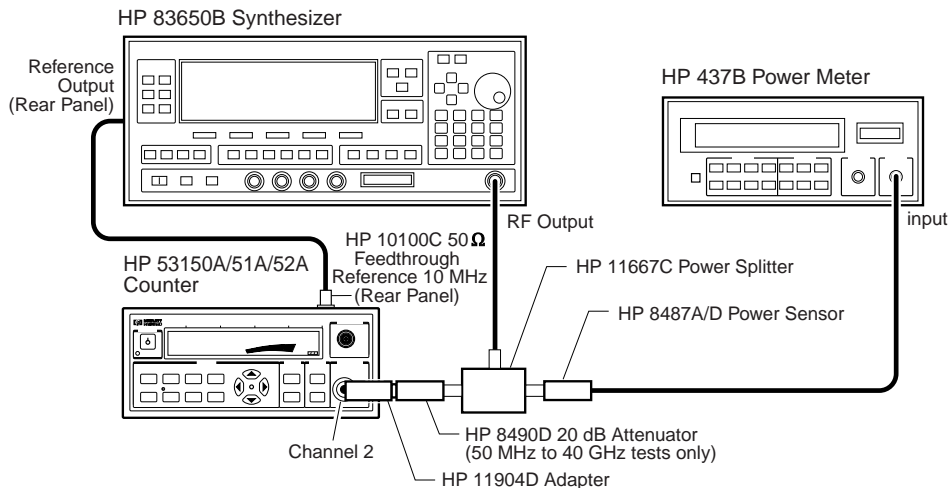

Figure 1-4. 50 MHz to 20 GHz Frequency Sensitivity Test Setup
- 1 Connect the HP 11904D 2.92 mm (m) to 2.4 mm (f) Adapter to the Counter's **CHANNEL 2** input connector (refer to Figure 1-4 for steps 1 through 4).
- 2 Connect the HP 8490D Attenuator to the HP 11904D Adapter, as shown in Figure 1-4 (the other end of the Attenuator should remain connected to the HP 11667C Power Splitter).